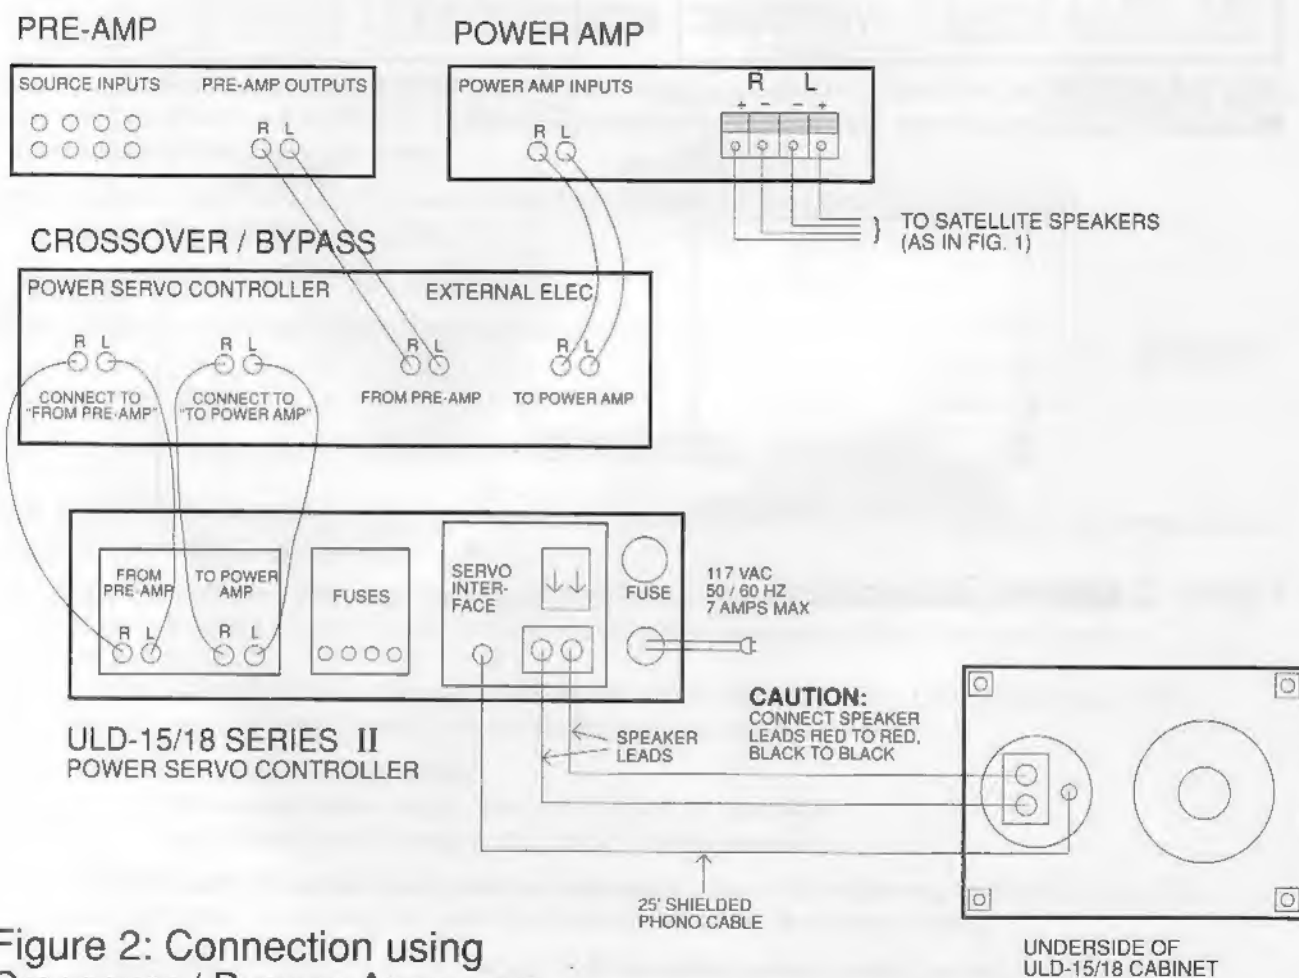

Figure 2: Connection using Crossover / Bypass Accessory
**Installation of Crossover/Bypass Option:** For audiophiles who prefer a passive high pass crossover, Velodyne offers an accessory unit which includes a 6 dB per octave crossover as well as a subwoofer bypass switch. The bypass function allows you to play your main speakers full range without the subwoofer. Figure 2 shows how to connect your ULD-15/18 with the Crossover/Bypass.